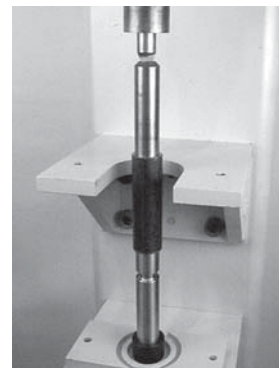

Figure 55
3. Using an arbor press or similar device, press bearing onto pulley shaft (**Figure 55**).